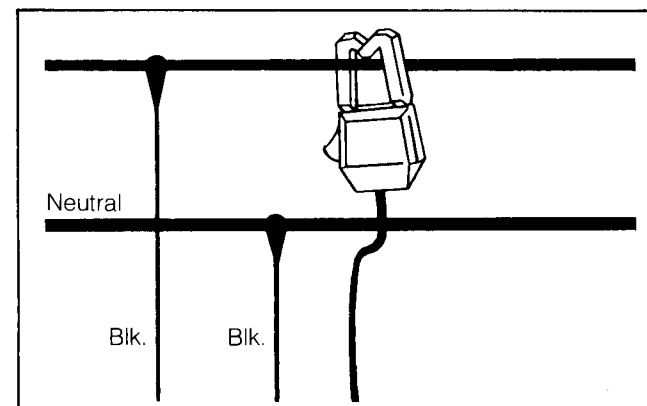

fig. 1
1. Connect the single phase voltage probe (two black cables) to jack (2) on instrument front panel.
2. Connect the dual current probe to jack (1) on front panel.
4. Clip the voltage probes on the two lines. NOTE: The Volts Low indicator will come on if the connection is bad or there is no voltage above 70 V. See fig. 1.